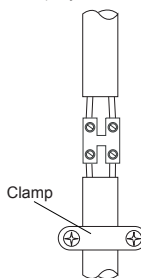

Fig. 5
6. To cooling and heating unit, signal control wire connect with indoor unit via connector, and has the wire tightened by clamp at bottom of the unit's body (as shown in fig. 5).